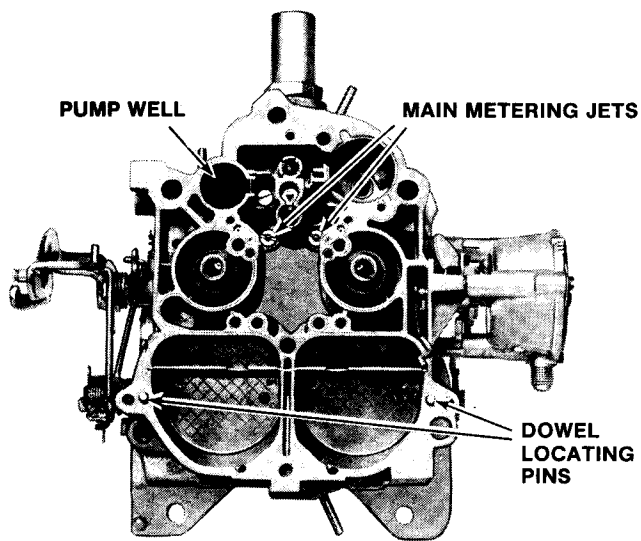

Figure 17—Float Bowl
**FLOAT BOWL DISASSEMBLY (FIGURE 17)**